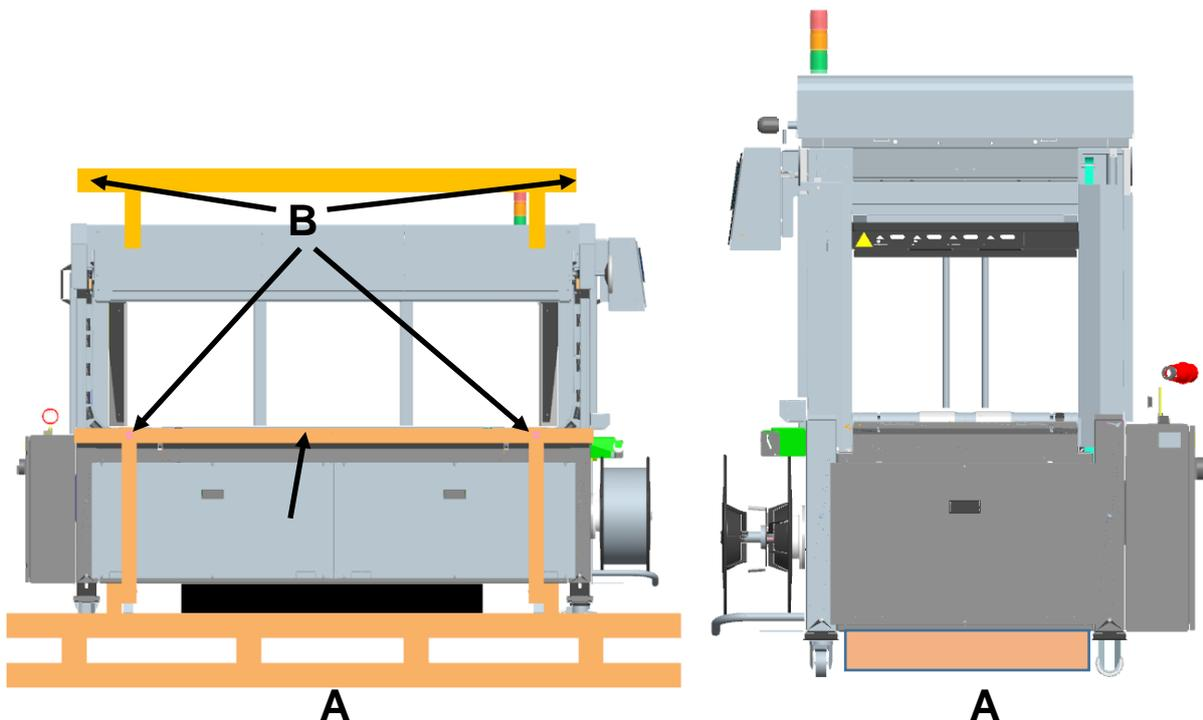

Figure 14: Area for forklift truck to move the machine
Lift the machine down off the pallet in the marked area (A) (see Figure 14) with a forklift truck or pallet truck.